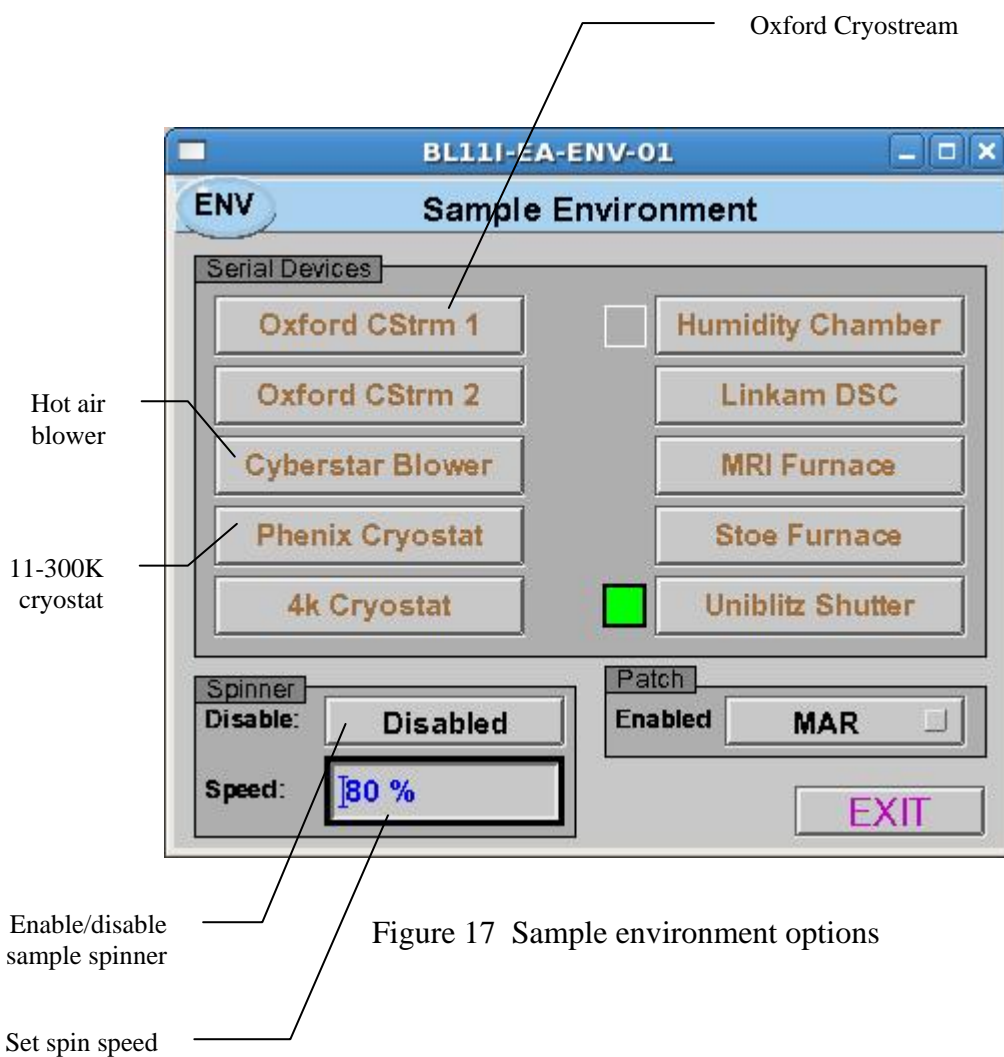

Figure 17 Sample environment options
- Select **ENV** to open a window for control of the sample environment options (Figure 17).